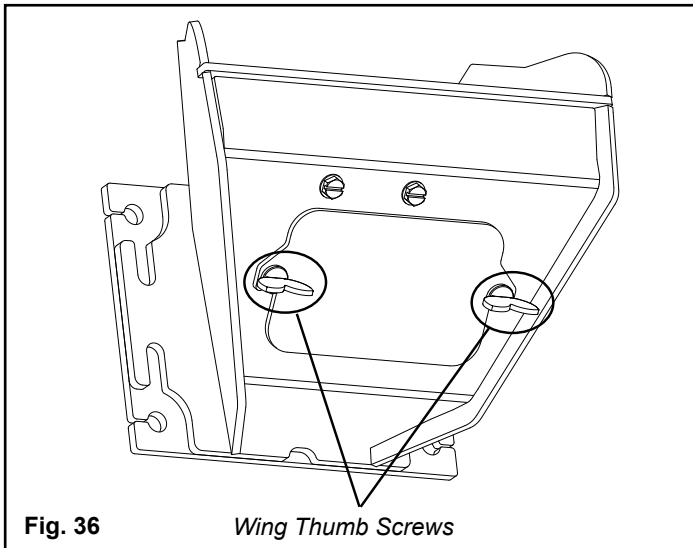

Fig. 36
2. Loosen the (2) wing thumb screws on the lower front angle of the burn pot. Fig. 36